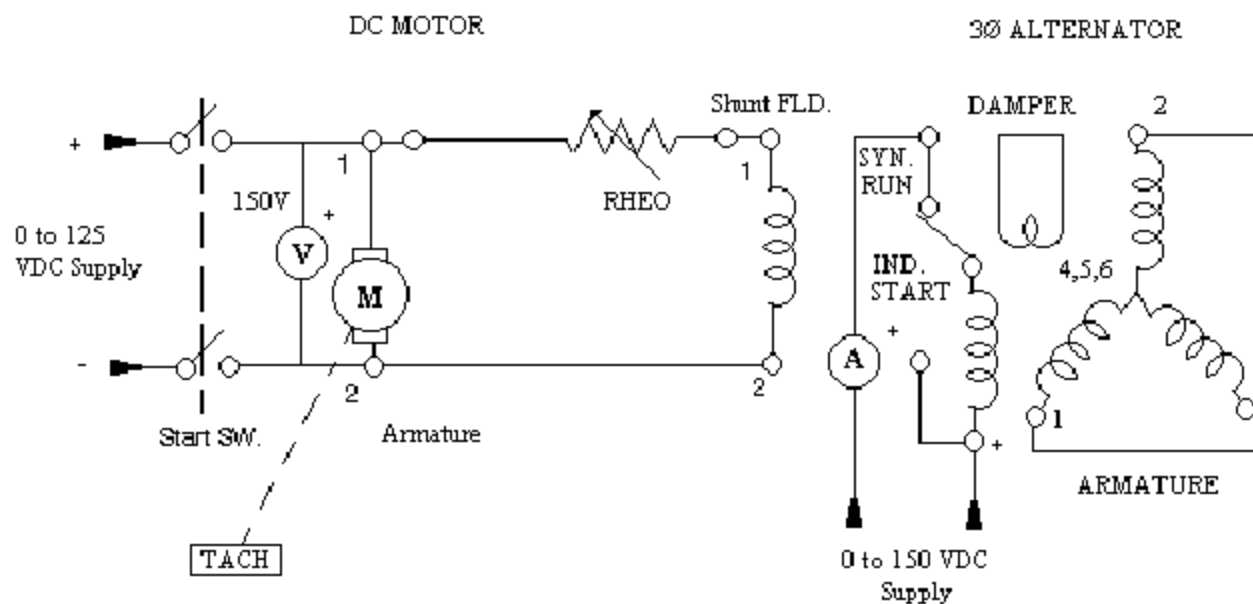

FIGURE 28
1. Couple the alternator to the Split-Phase Motor (or other suitable prime mover) and make the connections shown in Figure 28.